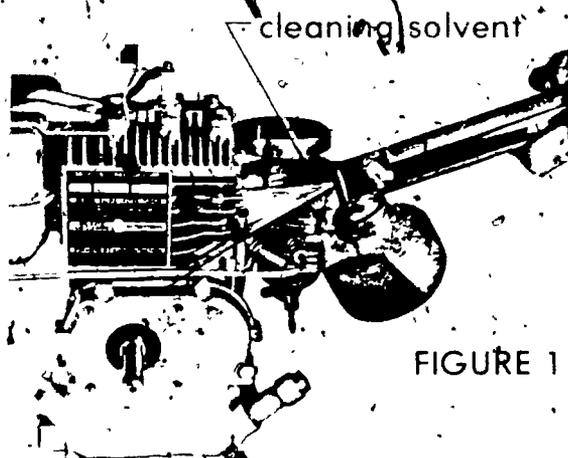

FIGURE 1
- D Spray solvent over dirty fins and block areas (Figure 1)